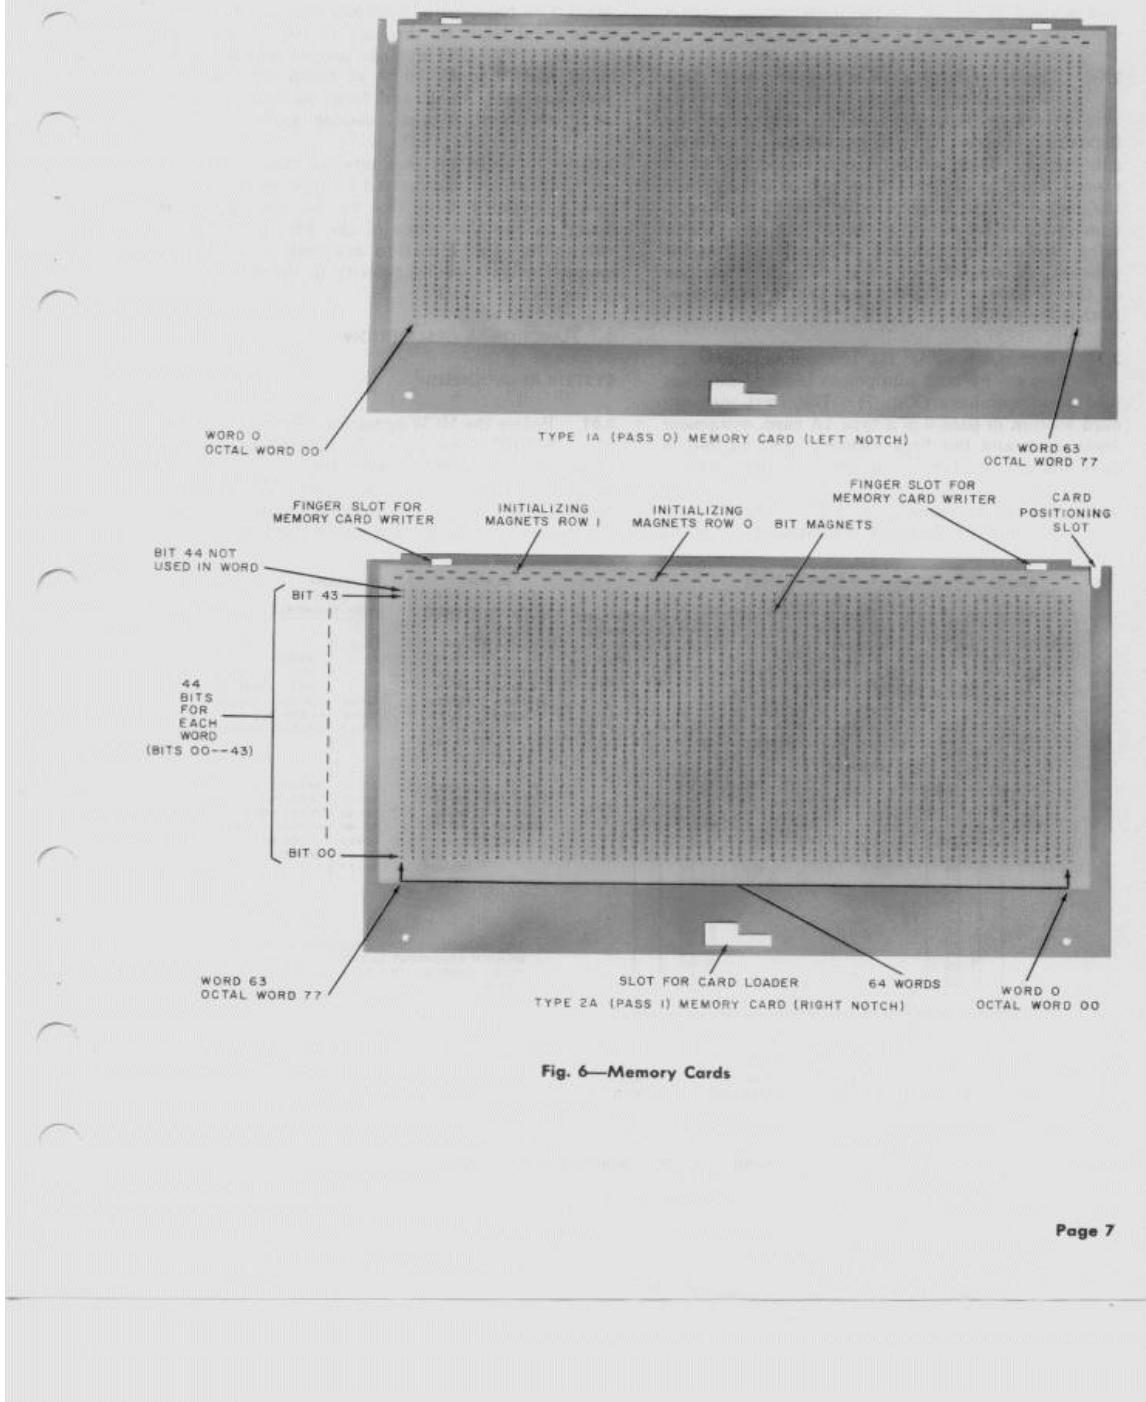

Fig. 6—Memory Cards
**2.08** The memory card (Fig. 6) is a rectangular aluminum card 11-1/4 by 6-5/8 by 0.016 inches. There are two types of memory cards used: type 1A used in pass 0 and type 2A used in pass 1. The type 1A and type 2A memory cards are physically different and can be recognized by the location of a card positioning slot which is used to position the memory cards in the PS. If the memory cards are held with the slot for the card loader at the bottom, type 1A cards are notched
**2.12** On the memory card (Fig. 6) the 64 rows of word bit magnets are numbered 0 to 63